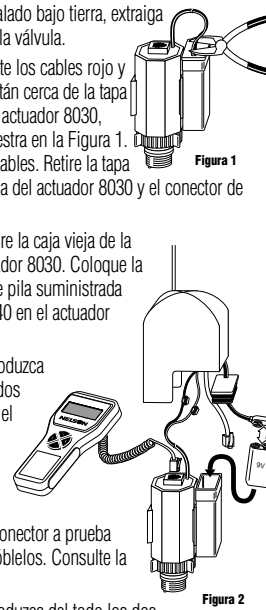

Figure 2
Step 4) Insert the red wire from the 8030 Actuator and the red wire from the 8040 Radio Adapter fully into the leak-proof connector and crimp. See Figure 2.